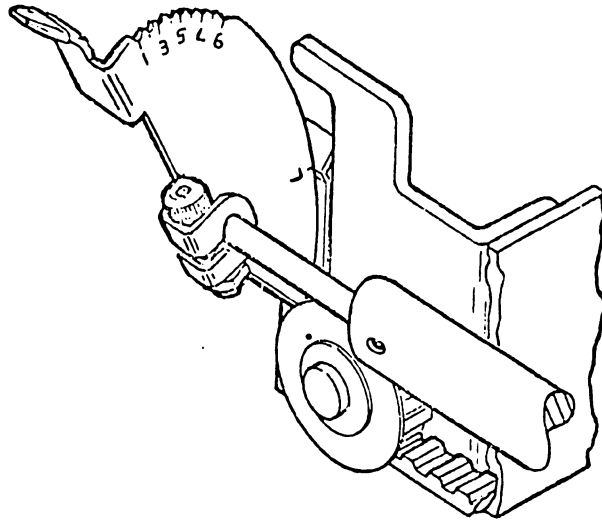

FIGURE 3-3 HEAD ADJUSTMENT ARM
- 2) Move Head Adjustment Arm to load L position (Figure 3-3).
- 1) Move Head Adjustment Arm to load (L) position (Figure 3-3).